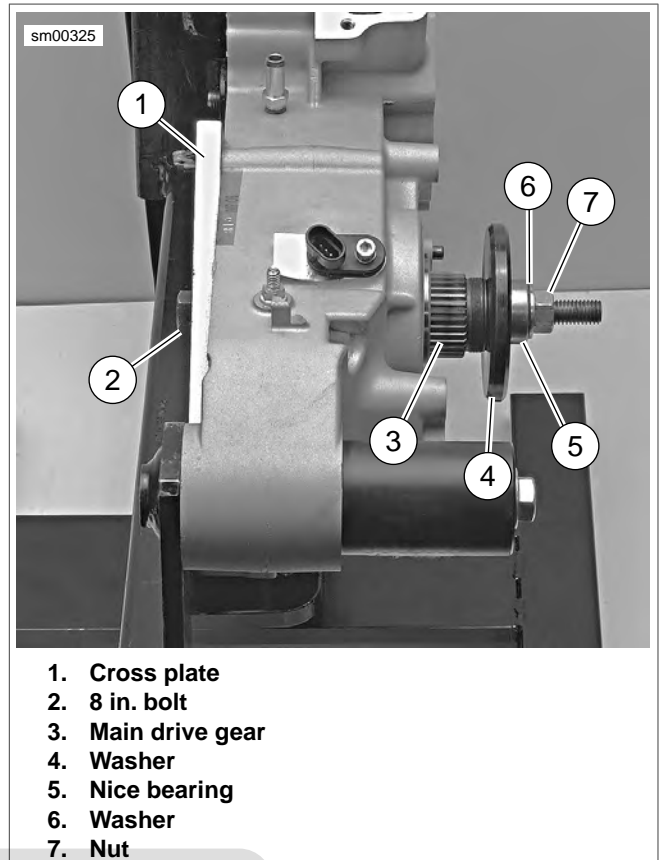

Figure 5-69. Removing Main Drive Gear Bearing (Typical)
- See Figure 5-69. Insert bolt (2) through cross plate (1) and main drive gear (3).
- At outside of case, place WASHER (Part No. HD-35316-7) (4), nice bearing (5), flat washer (6) and nut (7) over end of bolt. Tighten nut until main drive gear is free.
2. See Figure 5-69. From inside crankcase, position BEARING DRIVER (Part No. HD-35316-9) (2) over main drive gear bearing.
3. Insert 8 IN. BOLT (Part No. HD-35316-4A) (1) through bearing driver and bearing.
4. At outside of case, slide RECEIVER CUP (Part No. HD-35316-11) (3) onto bolt and over bearing. Install nice bearing (4), flat washer (5) and nut (6) over end of bolt.